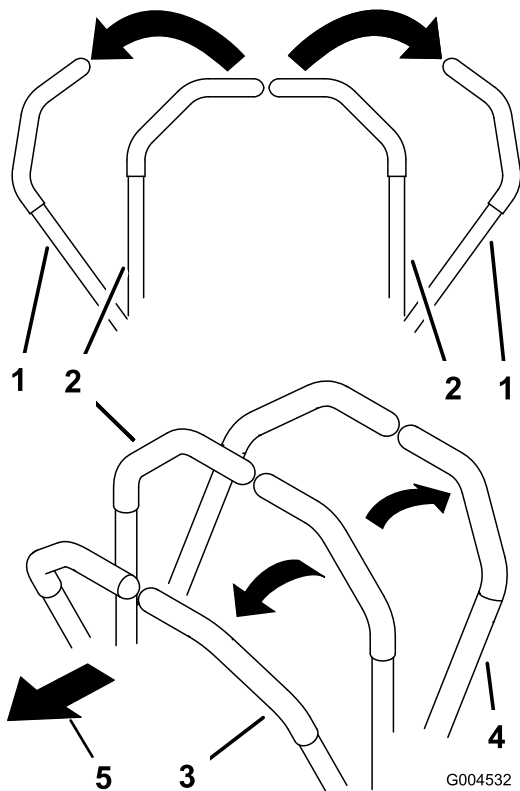

Figure 17
1. Move the motion control levers (Figure 17) out to the neutral lock position.
3. To go forward, slowly push the motion control levers forward (Figure 17).
To go straight, apply equal pressure to both motion control levers (Figure 17).
To turn, move the motion control lever toward neutral in the direction you want to turn (Figure 17).
To go backward, slowly pull the motion control levers rearward (Figure 17).
To turn, release pressure on the motion control lever toward the direction you want to turn (Figure 17).